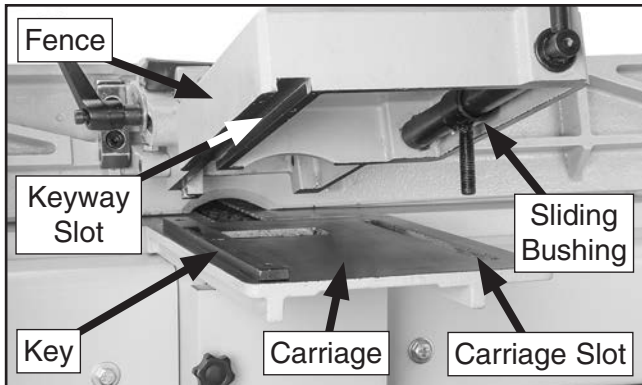

Figure 16. Aligning fence assembly and fence carriage.
2. Lift fence assembly over fence carriage, slip sliding bushing into the fence carriage slot, ensuring key fits snugly into key slot, as shown in **Figure 16**.